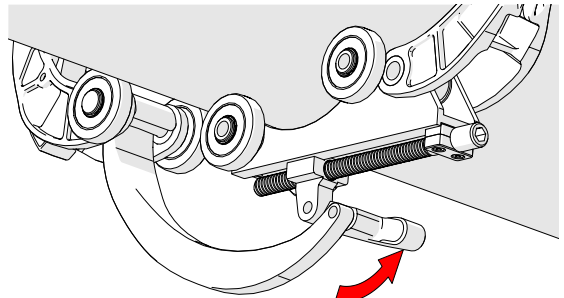

Fig. 81 - Press down to lock
- Rotate the knob until the QuickLink Buckle's lever can be pushed down, locking the QuickLink Buckle in place (Fig. 81).